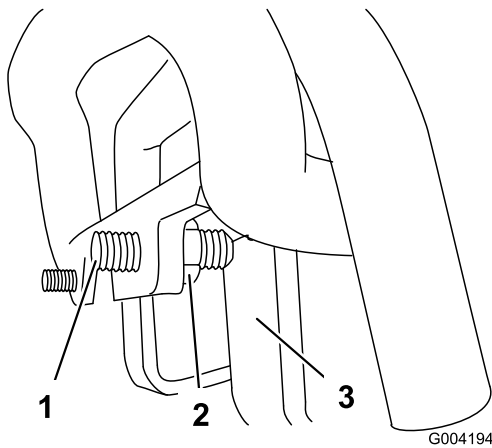

Figure 53
3. If the traction unit veers to the **left**, loosen the **right** jam nut and adjust the tracking set screw on the front of the traction control (Figure 53).
4. If the traction unit veers to the **right**, loosen the **left** jam nut and adjust the tracking set screw on the front of the traction control (Figure 53).